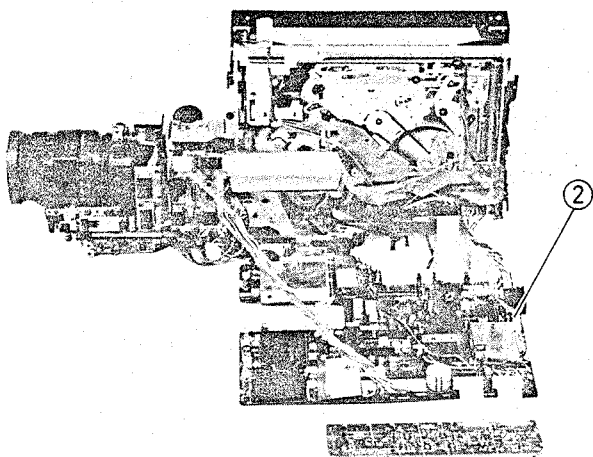

Fig. 2-84 Capstan Motor Removal
Capstan Motor Removal (Figs. 2-84, 2-85, 2-86, 2-87)
2. Disconnect connector CN612. (See Fig. 2-84)